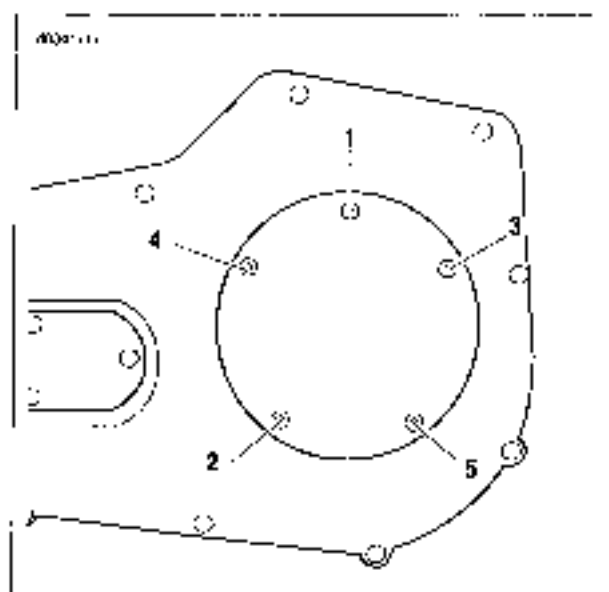

Figure 1-31. Clutch Cover Torque Sequence
- e. Attach clutch inspection cover using five TORX screws with captive washers. Tighten to 84-108 In-Lbs (9.5-12.2 Nm). Follow torque sequence shown in Figure 1-31.